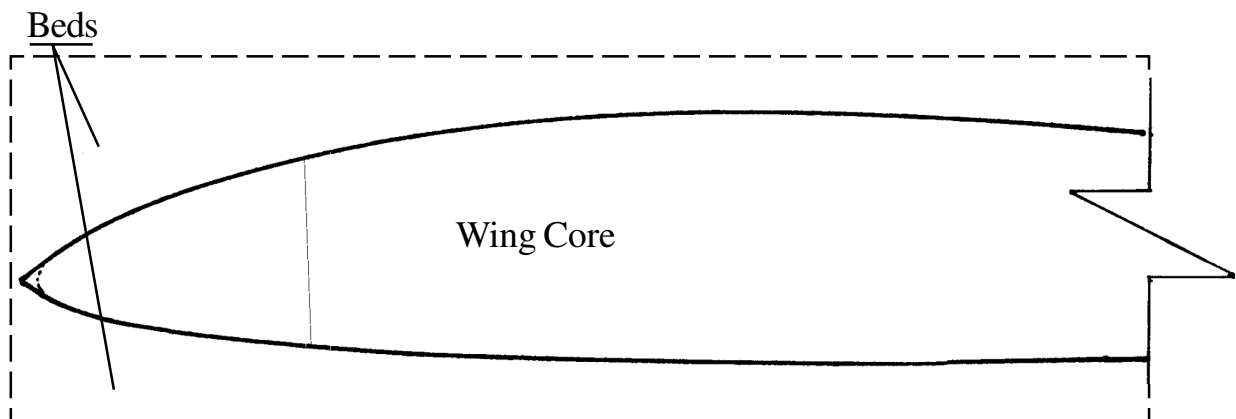

Figure 1
- 1 Radio Transmitter (TX) 3 channels w/mixing
- 1 Receiver (RX)
(See **Figure 1**) Separate the top and bottom beds from the wing cores. Lightly block sand the wing panels (cores) with #150 or #320 paper and round the leading edge (LE).